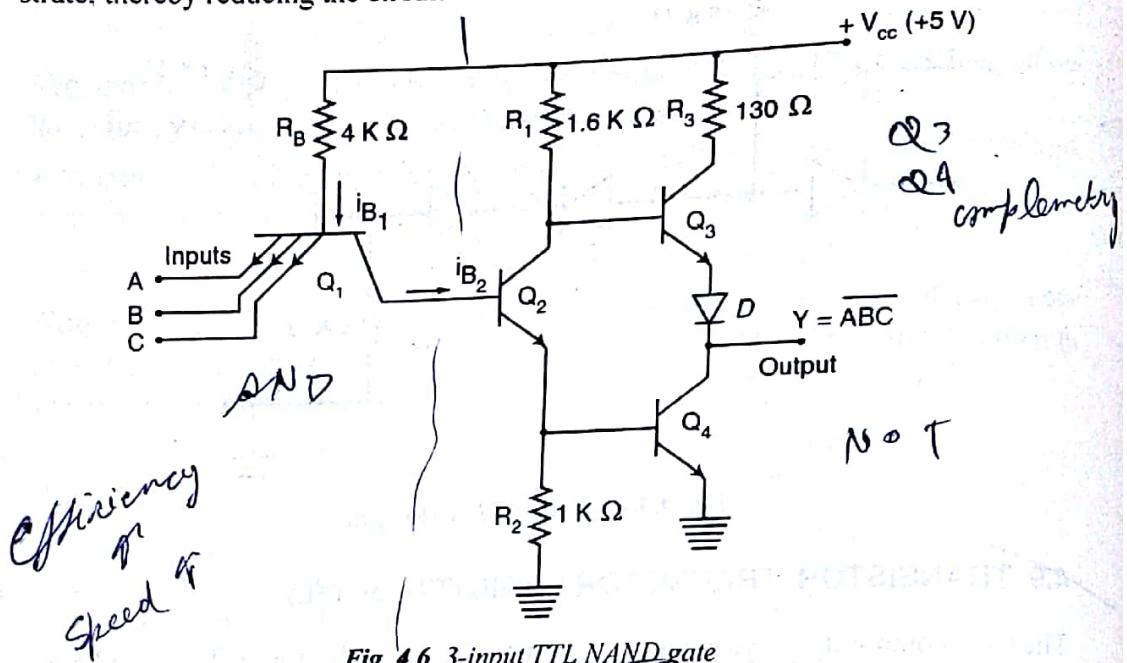
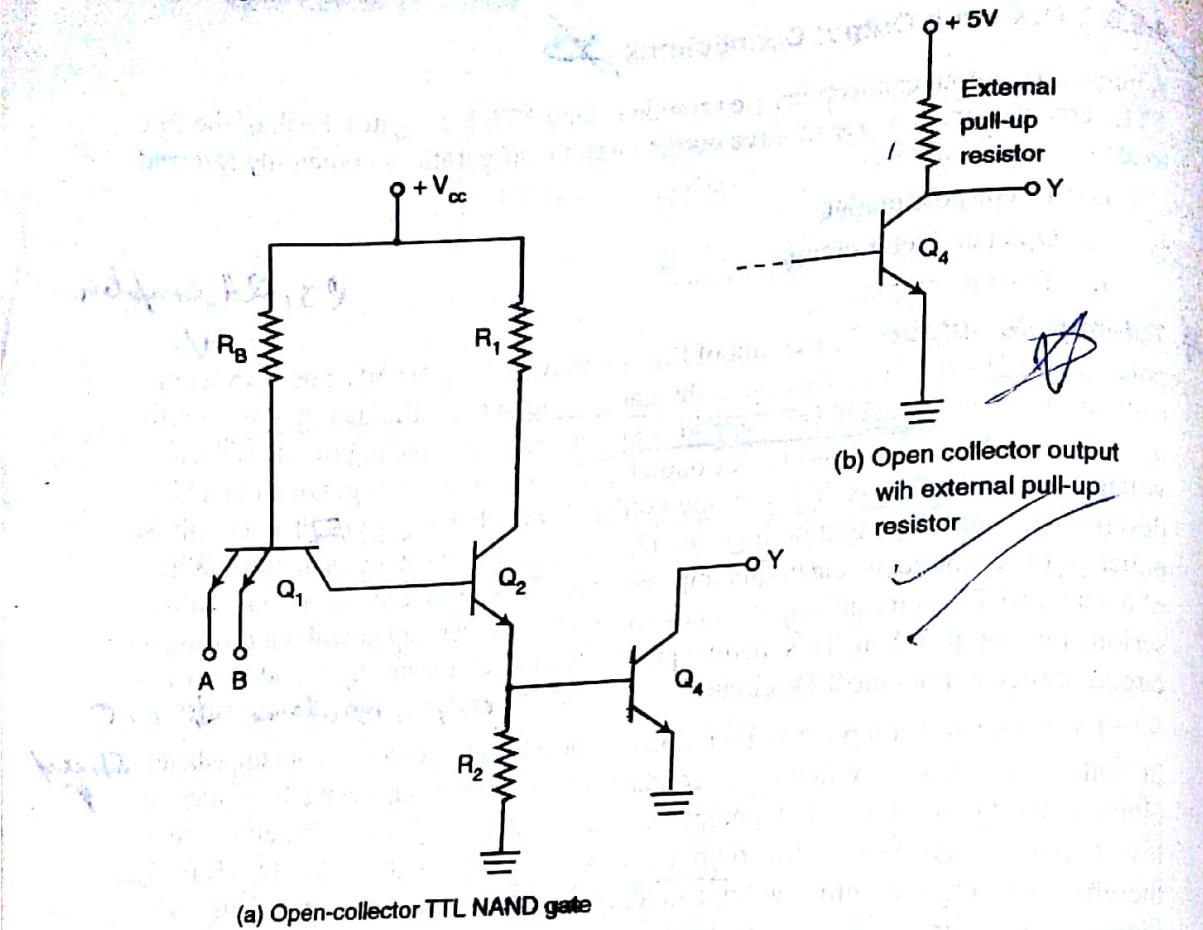

Fig. 4.6 3-input TTL NAND gate
Fig. 4.9
**Circuit operation** The basic circuit of the TTL NAND gate is shown in Fig. 4.6. The output is taken from the collector of transistor  $Q_4$ . Each emitter of  $Q_1$  acts like a diode. Therefore, transistor  $Q_1$  and the  $4\text{k}\Omega$  resistor act like a 3-input AND gate and the rest of the circuit inverts the signal. Hence, the overall circuit acts like a 3-input NAND gate.
**Standard series 54/7400 TTL** The Standard TTL gate was the first version of the TTL family. The basic standard gate circuit shown in Fig. 4.6 features a multiple-emitter input and an active pull-up output configuration. The use of multiple emitters is a major contribution to derive fast-switching speeds of TTL. Low output impedance is attained with totem-pole output stage consisting of transistors  $Q_3$  and  $Q_4$ , which also results in improved noise immunity and faster switching.
**Totem-pole output** The circuit of Fig. 4.6 shows a TTL NAND gate with totem-pole output. The totem-pole output is the standard output of a TTL gate and is specifically designed to reduce the propagation delay in the circuit and to provide sufficient output power for a high fan-out. The output in circuit of Fig. 4.6 is obtained as a high voltage level when  $Q_1$  is ON or a low voltage level when  $Q_4$  is ON. The circuit is designed in such a way that both  $Q_3$  and  $Q_4$  can never be ON at the same time. When either  $Q_4$  or  $Q_3$  conducts, the output impedance is low and hence the totem-pole output of a standard TTL circuit cannot be connected to any other output without causing a serious loading problem. This loading problem can be eliminated by a modified TTL circuit, called a Tri-state TTL circuit.
**Open-collector output** The open-collector TTL gate needs an external resistor that must be connected between the collector of a pull-down transistor and the supply voltage for proper operation. The TTL NAND gate with open-collector output is obtained by removing the following components: transistor  $Q_3$ , diode  $D$  and resistor  $R_3$  of Fig. 4.6. The resulting open collector TTL NAND gate is shown in Fig. 4.9(a). As the collector of  $Q_4$  is open, this open collector gate will not work properly unless an external pull-up resistor is connected as shown in Fig. 4.9(b). The output is taken at the collector of transistor  $Q_4$ . A high voltage level will appear at the output in the HIGH state.
time constant when it is multiplied by the stray output capacitance. The slow switching speed of open-collector TTL devices becomes worse when the output goes from low to high. When the output transistor  $Q_4$  in the circuit of Fig. 4.9 goes into cutoff, then any capacitance across the output has to charge through the pull-up resistor. This charging produces a relatively slow exponential rise between the low and high state. Also, the circuit is more sensitive to noise at the output.